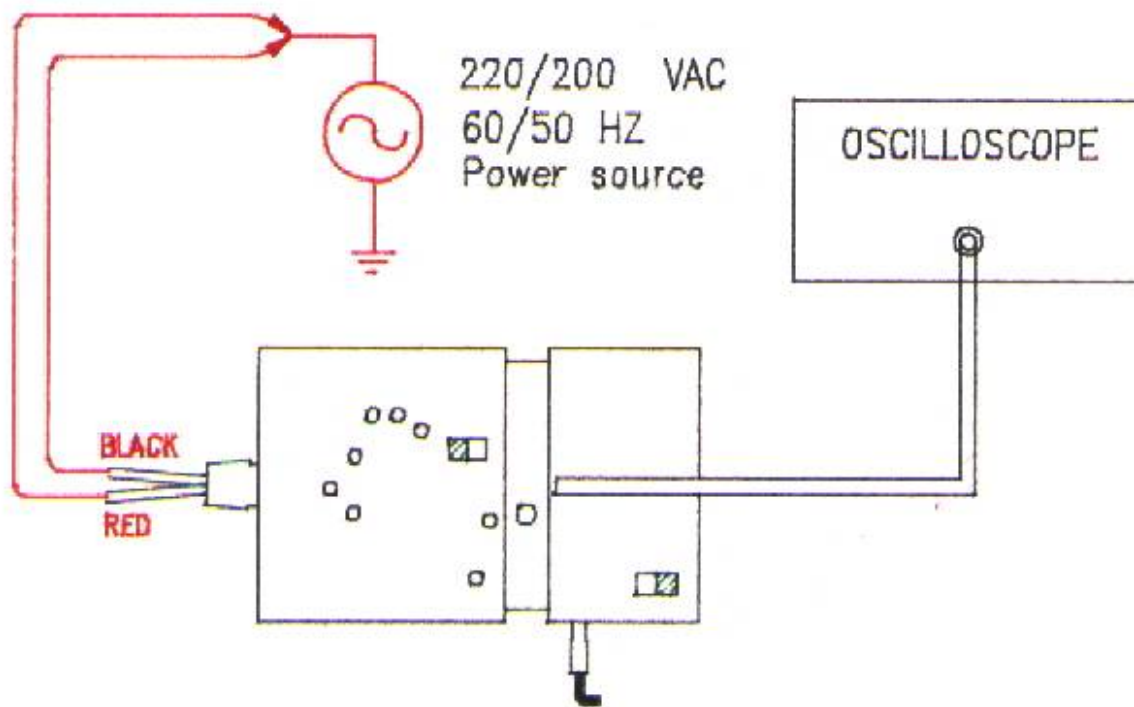

Fig. 11
- Referring to Fig. 11, connect output BNC to the oscilloscope which has good grounding.